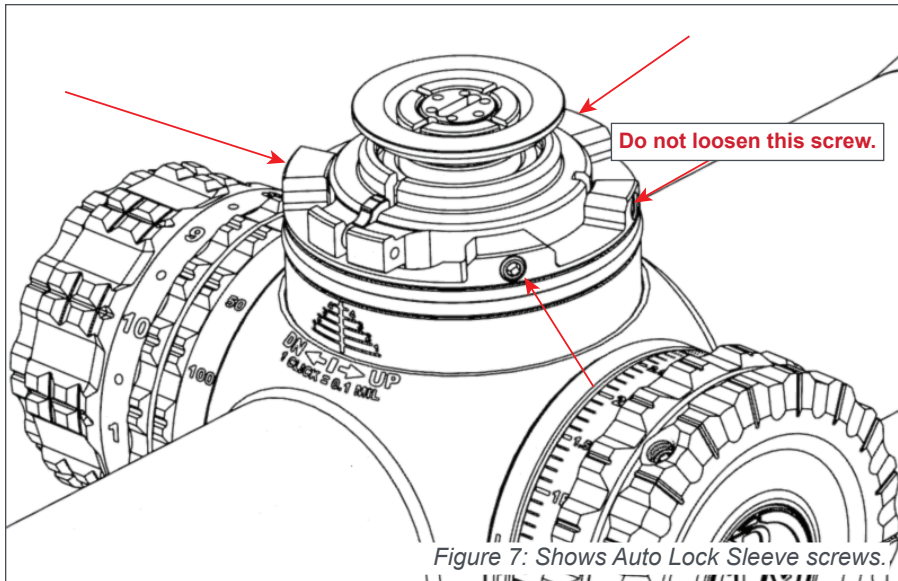

Figure 7: Shows Auto Lock Sleeve screws.
- Loosen the three Auto Lock sleeve set screws using the 1.3mm Allen Key provided as shown in Figure 7. **You do NOT need to completely remove these screws!**
WARNING: Do not loosen or remove the slotted set screw shown in Figure 7.